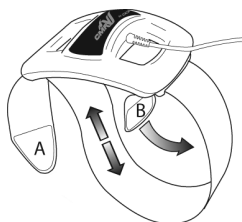

Figure 1
1. Remove Velcro tab "A" and loosen strap. (Figure 1)
5. To shorten or lengthen the strap, move Velcro tab "B" along the strap. (Figure 1)
6. To tighten or loosen the strap, remove and reposition Velcro tab "A". (Figure 1)